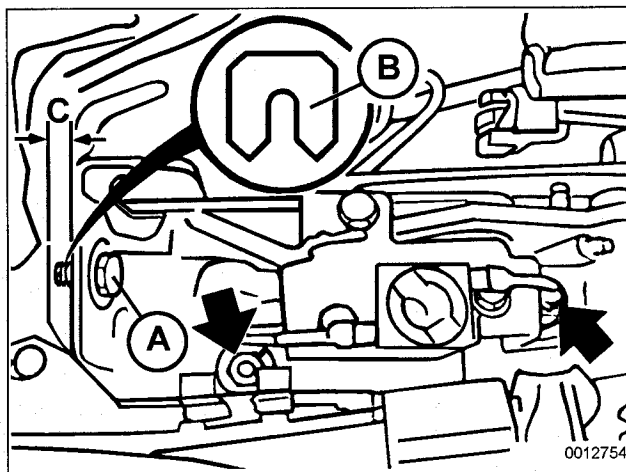

Fig. 13. Horizontal positioning bolt (A) and U-shaped adjusting shims (B) for convertible top. One of two main mounting nuts (arrows) also visible.
8. Installation is reverse of removal. Be sure to replace U-shaped shims on horizontal mounting bolts. See Fig. 13.